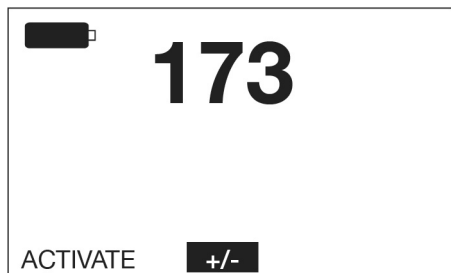

FIG. 20
7. Use the LEFT or RIGHT ARROWS to select +/- and press the ENTER button (Fig. 20).